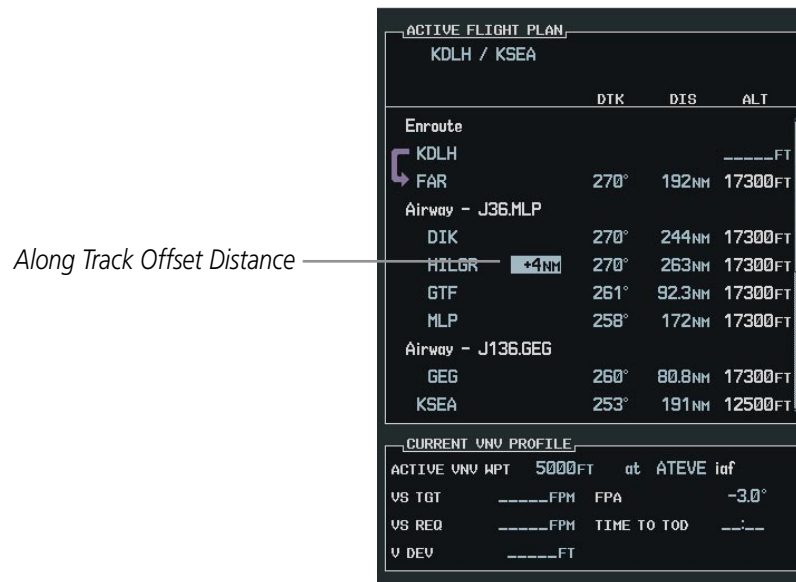

Figure 5-88 Along Track Offset Distance
- 4) Enter a positive or negative offset distance in the range of +/- 1 to 99 nautical miles (Figure 5-88). NOTE: The offset also cannot exceed the distance to the next or previous lateral non-ATK offset waypoint.